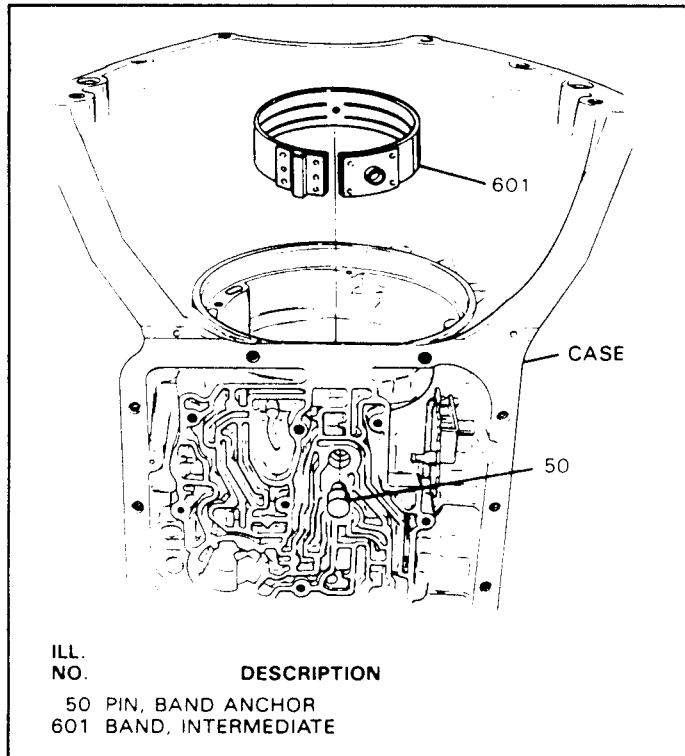

Figure 94
43. Install the intermediate band assembly into the case, as shown in Figure 94.
44. Install the intermediate band anchor through the case passage and engage it into the intermediate band (See Figure 94).